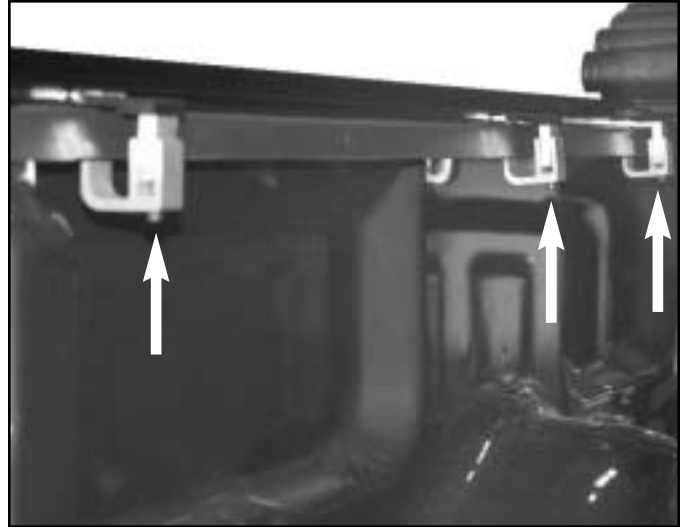
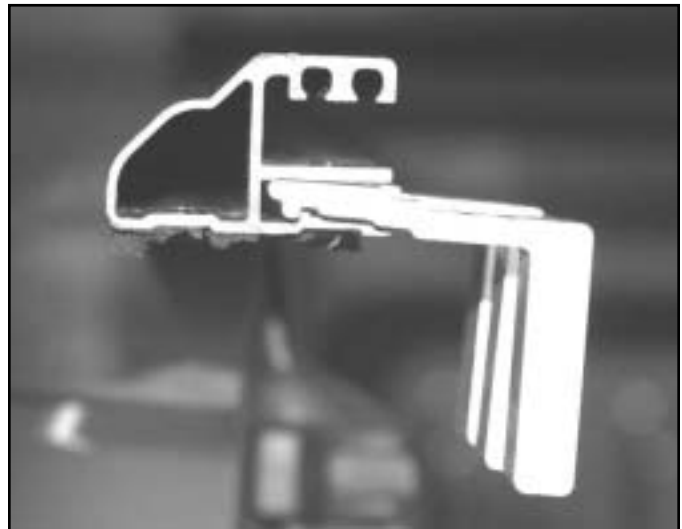

Figure S-55
Figure S-56
2. Remove the six (6) clamp arm fastener screws and lower clamp arm jaws. See figure S-55.
5. Drill out the three (3) rivets on each end cap and track.
6. Remove the end caps from the tracks. See figure S-56.
21. Insert the three (3) rivets per side through the tracks into the end caps.
25. Install the six (6) lower clamp jaws and clamp arm fastener screws. Refer back to figure S-55.
26. Tighten the six (6) clamp arm fastener screws. Refer back to figure S-55.